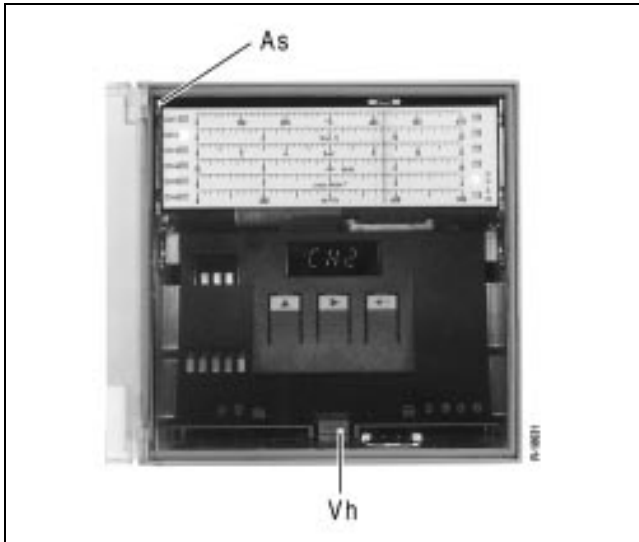

Fig. 14 As Retaining screw
1. Loosen the retaining screws *As* (see fig. 14) and pull forward the measuring element carriage by approx. 2 cm.
2. Lift up the locking lever *Vh* (see fig. 14) whilst pulling forward the module simultaneously.